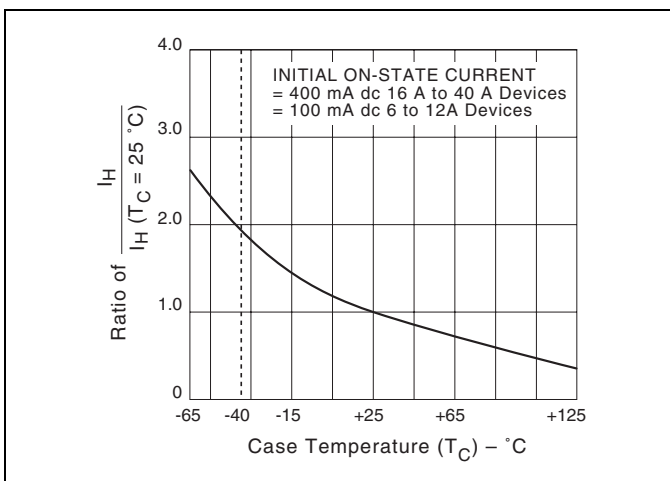

Figure E4.9 Normalized DC Holding Current versus Case Temperature
- (8) See Figure E4.9 for I_H versus T_C.